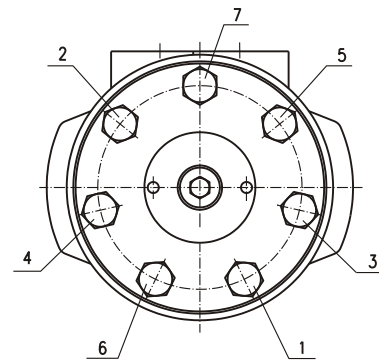

Fig.10
21. Install screws and washers in end cover. Tighten screws with  $6 \div 6,5$  daNm torque using an S=17 mm spanner socket in sequence as shown in Fig.10.